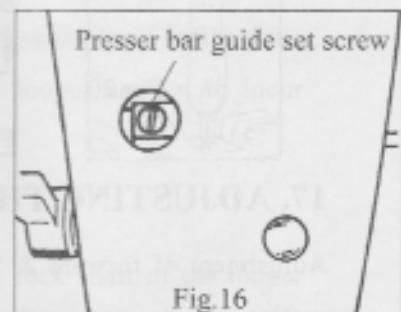

Fig.16
13. ADJUSTING THE HEIGHT OF PRESSER FOOT(Fig.16)
Take off the rubber plug in the hole from the face plate, as shown in Fig.16.